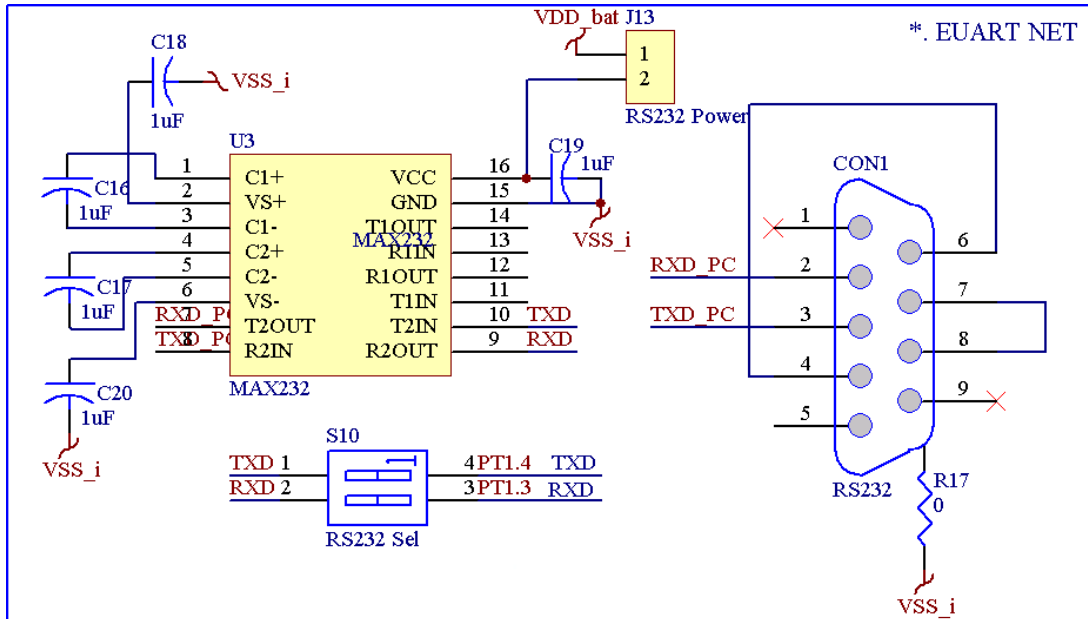

Figure 13
- ◆ CON1: UART communication port (RS232); in common use for 9-PIN connector, as illustrated in Figure 13.